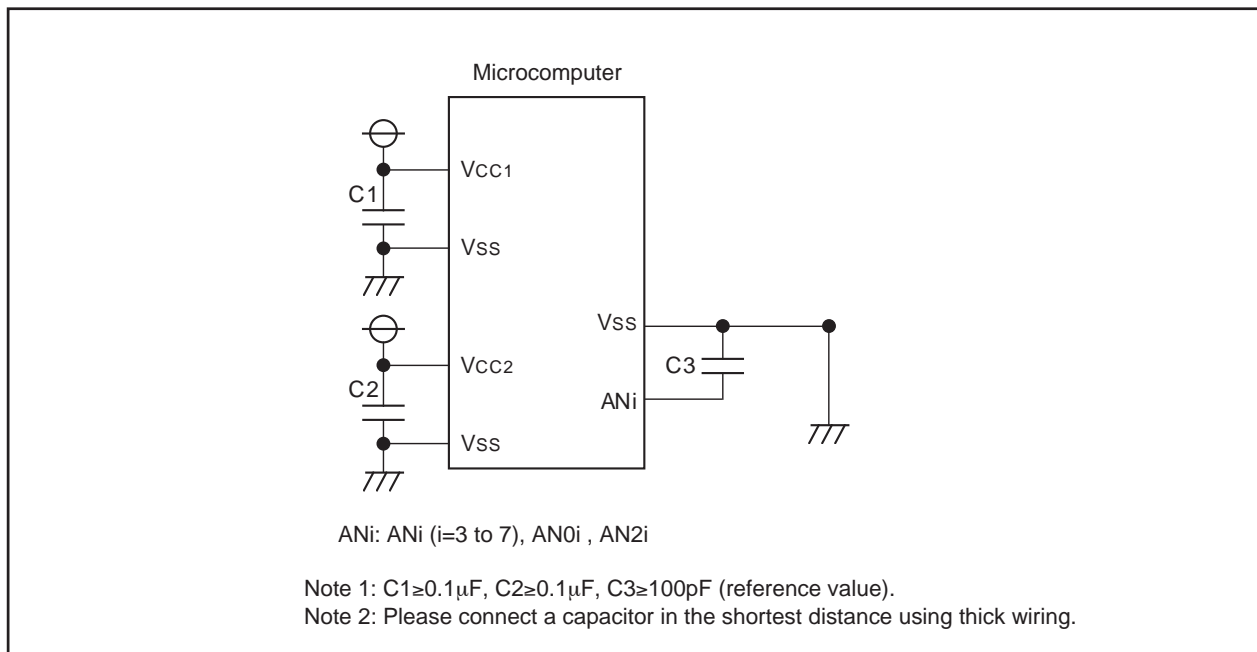

Figure 12.8. Example of noise measure processing of each pin
- (1) Please set to "0" (input mode) the direction bit of a port corresponding to the pin used as an analog input pin.
- (2) When you use key input interruption, please do not use all of pins AN4 to AN7 as an analog input pin (if A/D input voltage is set to "L", a key input interruption demand will occur).
- (3) In order to reduce prevention of incorrect operation and the latch rise by the noise, and a conversion error, please insert a capacitor, respectively between VCC1 pin, VCC2 pin, an analog input pin (AN_i (i=3 to 7), AN0_i, AN2_i), and a VSS pin. The example of processing of each pin is shown in Fig.12.8.
- (4) A/D conversion is completed, and the mistaken value is stored in an AD_i register when CPU reads an AD_i register to the timing which stores the result in an AD_i register (i=0 to 7). This phenomenon is generated when the clock which divided the main clock, or a sub clock is chosen as a CPU clock.